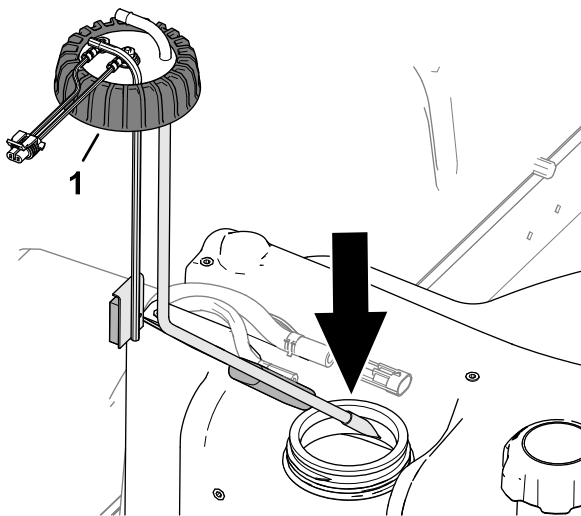

Figure 92
2. Carefully assemble the fuel pick-up tube and float into the fuel tank (Figure 92).